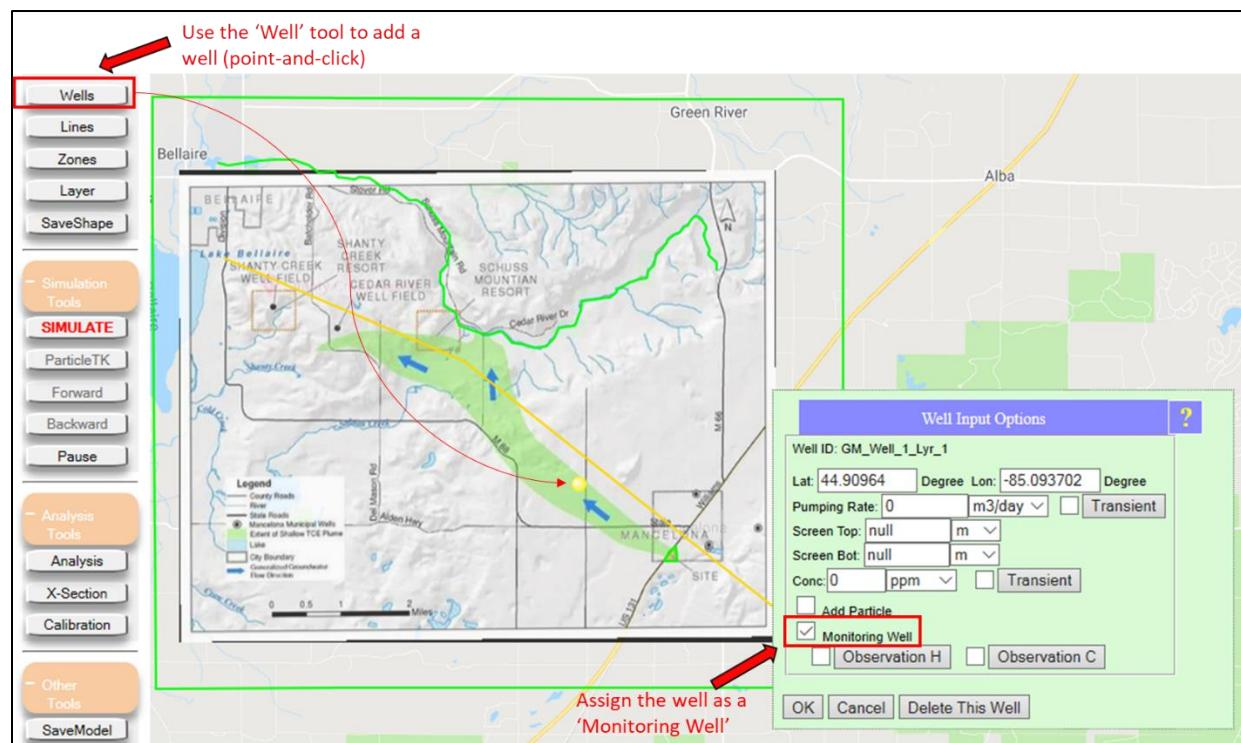

Figure 16. Adding a monitoring well using the ‘DrawWells’ tool (‘Conceptual Model Tools’ > ‘Wells’ > ‘DrawWell’) and the Well Input Options menu.
- Check the box next to ‘Monitoring Well’ (see Figure 16).
You may also notice that the simulated plume is not “pulled” to the west as field data/site map suggests in does in reality. This is because the model does not simulate the Cedar River well field near Shanty Creek Resort. Wells can be added to the model using the ‘DrawWell’ tool (‘Conceptual Model Tools’ > ‘Wells’ > ‘DrawWell’) – see Figure 16.